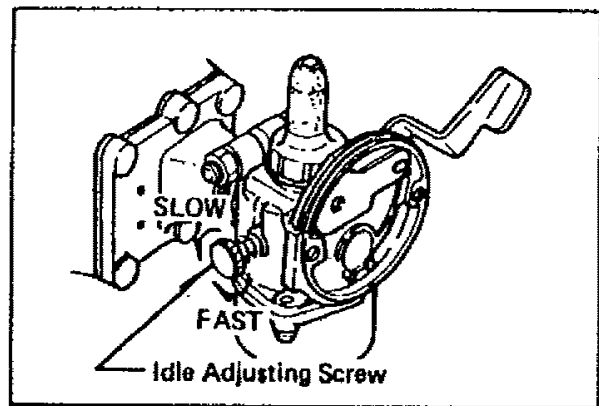

Figure 9
- a. Your motor has a idle adjusting screw and the idle speed has been preset at the factory. However, you may need to adjust the idle speed using Idle Adjusting Screw. Turn the Screw clockwise to increase motor speed and counter clockwise to decrease it. The idle speed adjustment must be done with throttle grip at full closed position and the idle speed should be as low as possible while the engine runs steady. (See Figure 9)